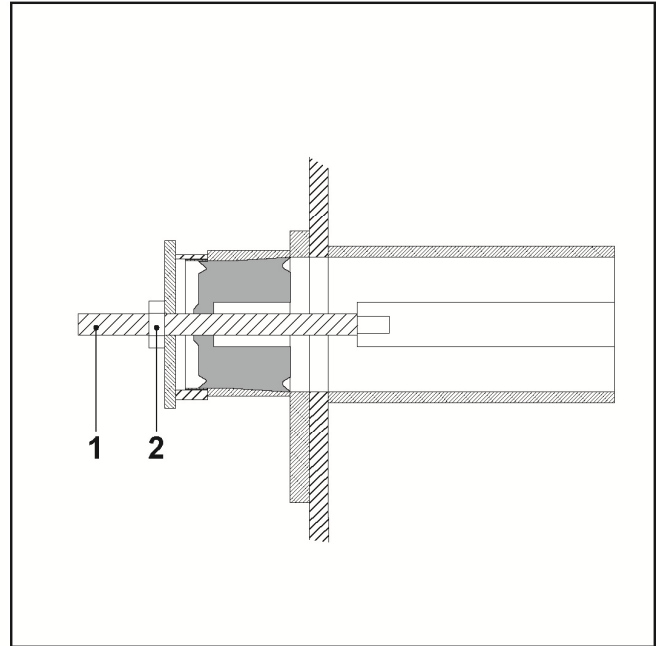

FIG.51
- Screw the M20 threaded rod (FIG. 51-REF. 1) onto the piston head, screw on the nut (FIG. 51-REF. 2) and pull out the piston.